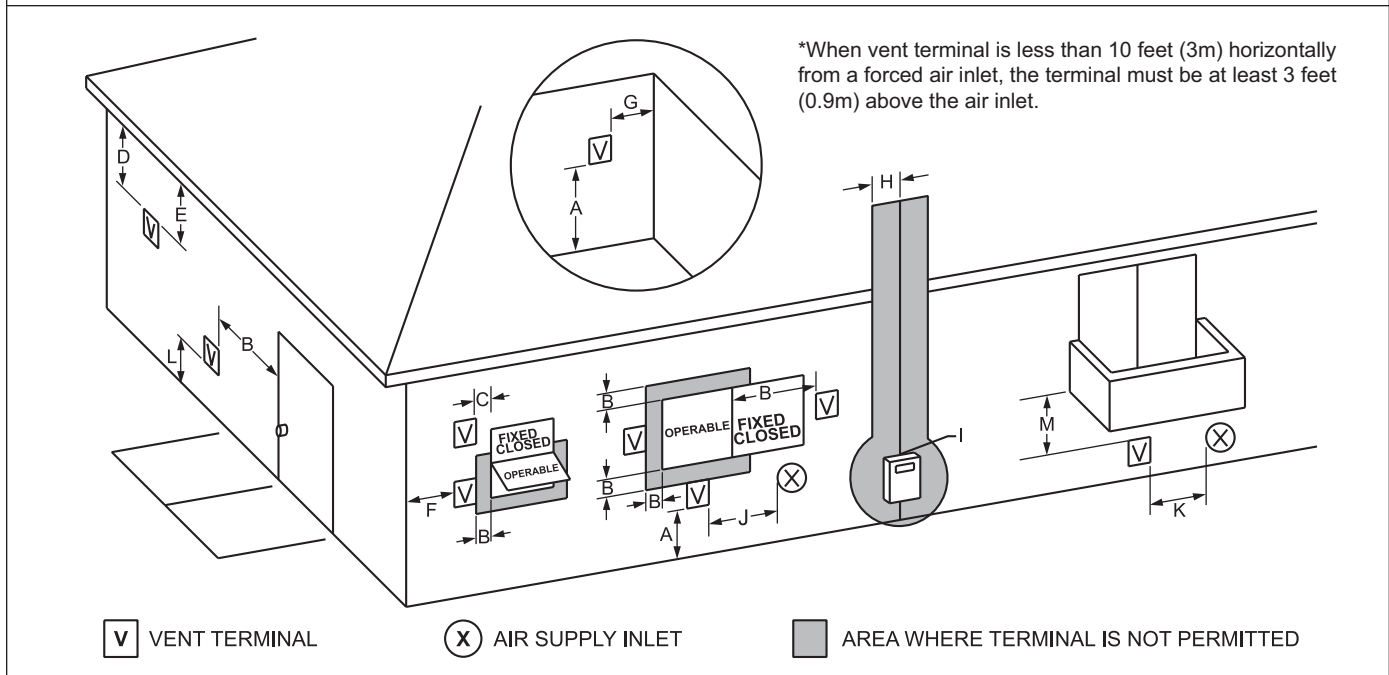

Figure 12. Combustion Air and Vent Through Side Wall.
1. Figure 12 shows the requirements for mechanical vent terminal clearances for the U.S. and Canada.